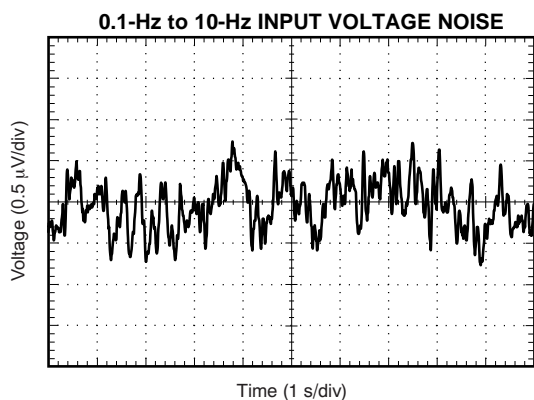

Figure 11.
0.1-Hz to 10-Hz Input Voltage Noise (5.5 V)	Figure 11